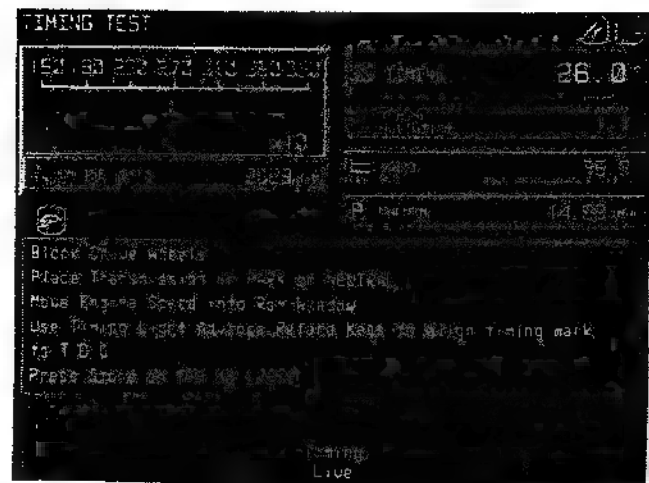

Figure 2-34
1. The *Timing Test* screen appears (see Figure 2-34). The analyzer will test the Total Advance Timing first.